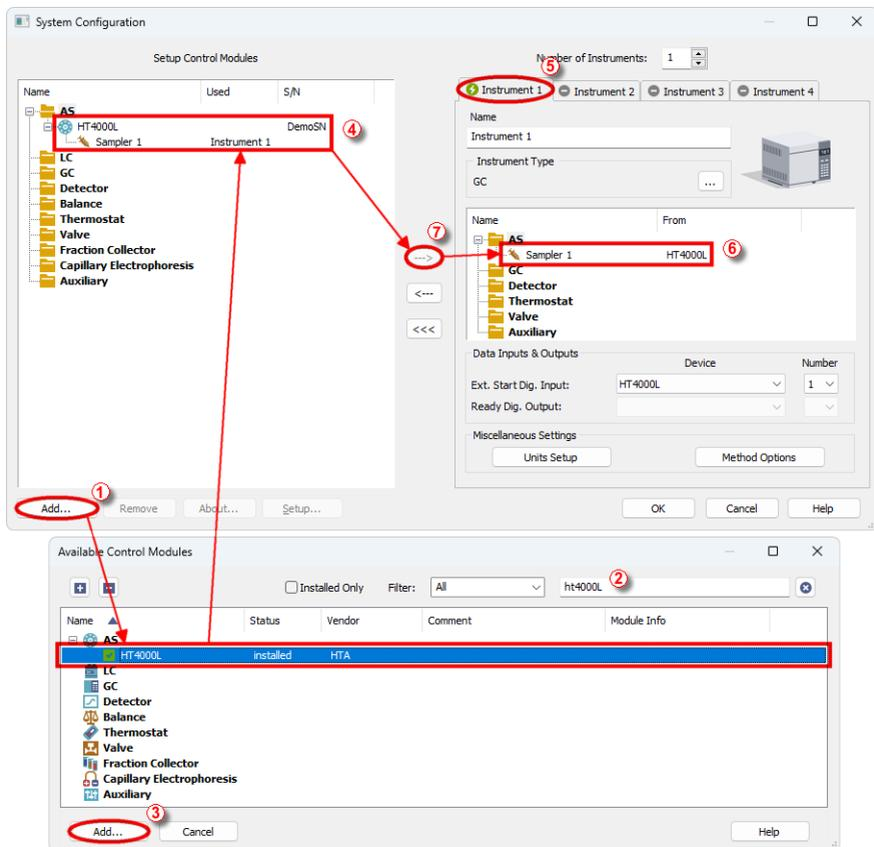

Fig. 2: System Configuration
- Press the *Add* button ① (see Fig. 2 on pg. 5.) to invoke the *Available Control Modules* dialog.
- You can specify the searching filter ② to simplify the finding of the driver.
- Select the **HT4000L** sampler and press the *Add* ③ button.